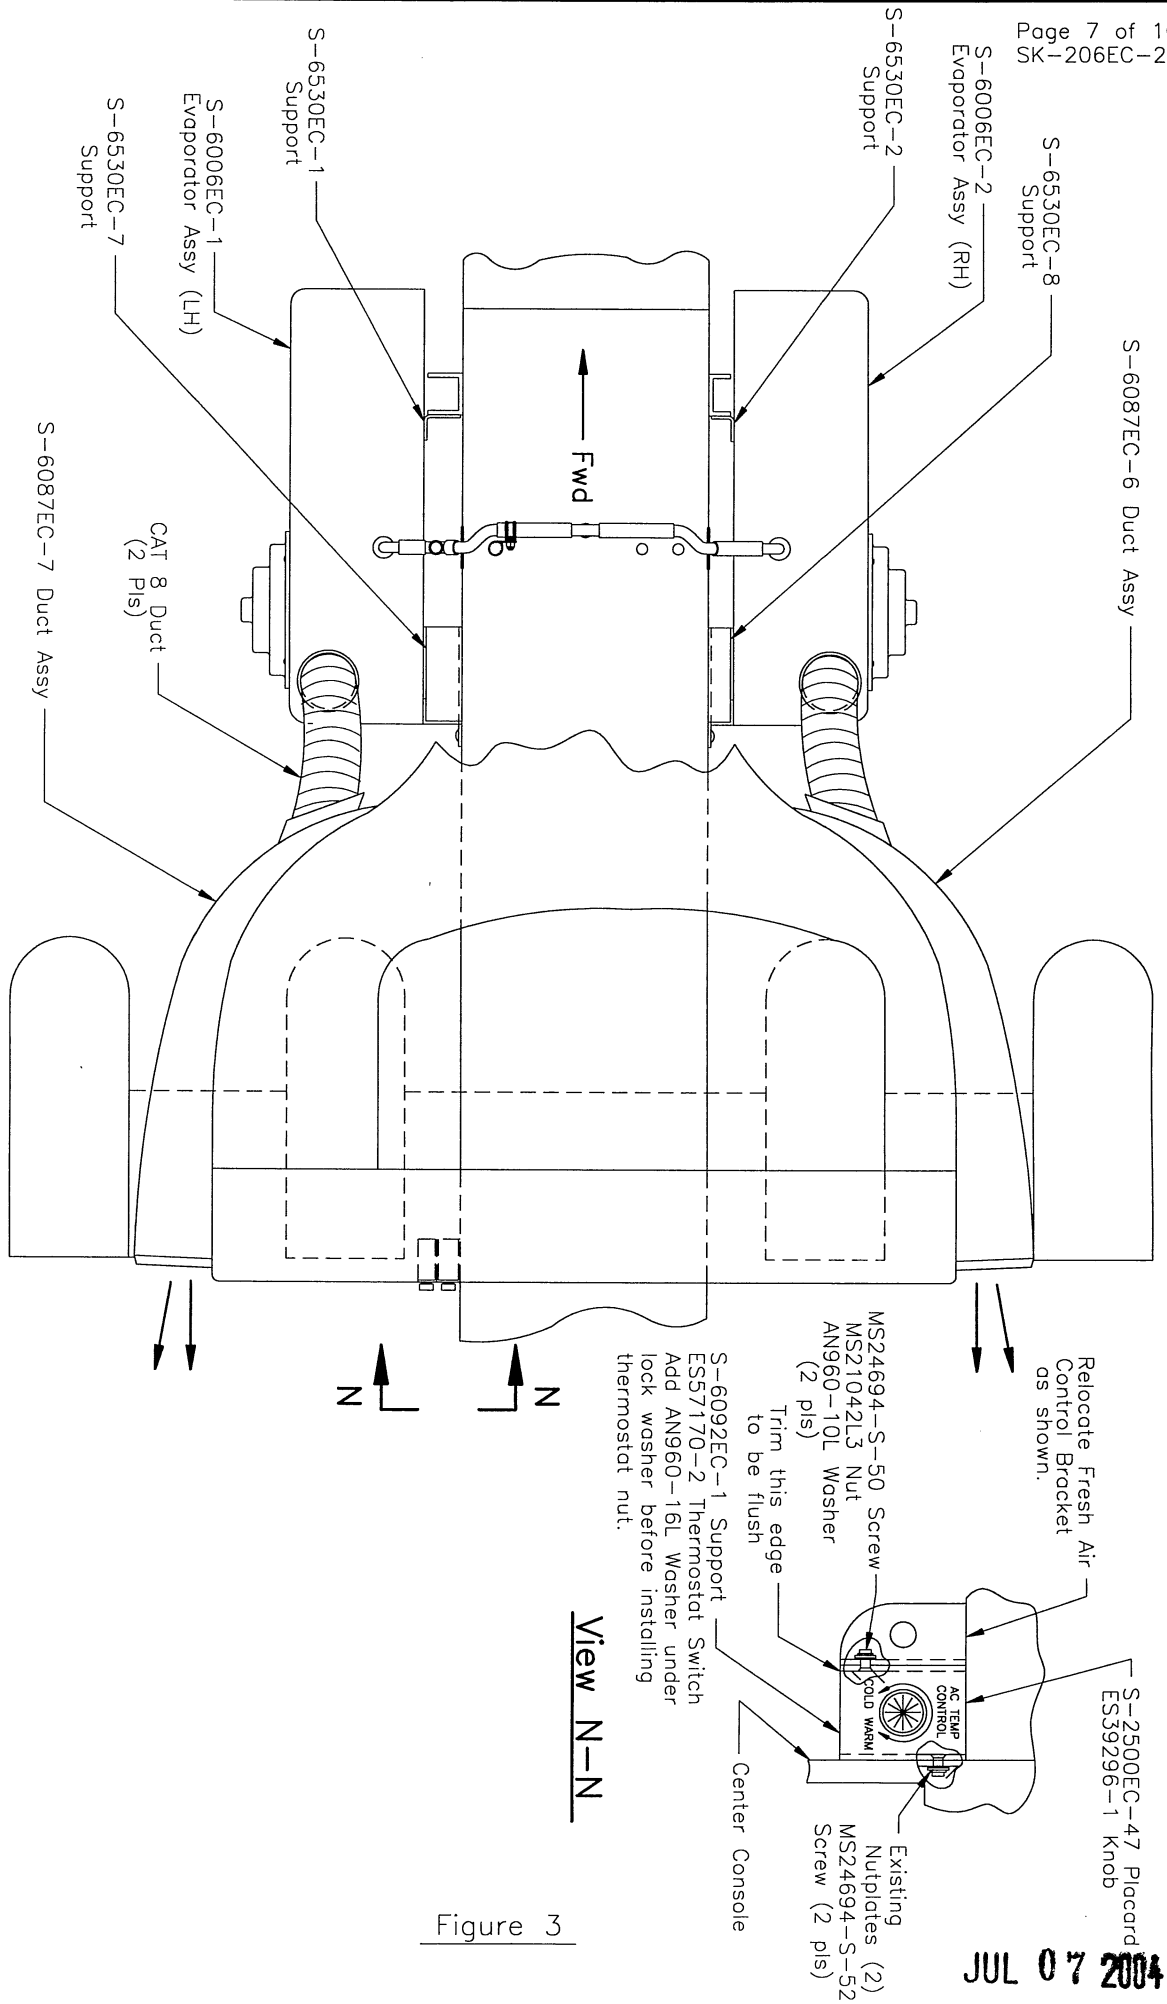

Figure 3
11. Install ES57170-2 Thermostat Switch with S-6092EC-1 Support as shown (fig.3).